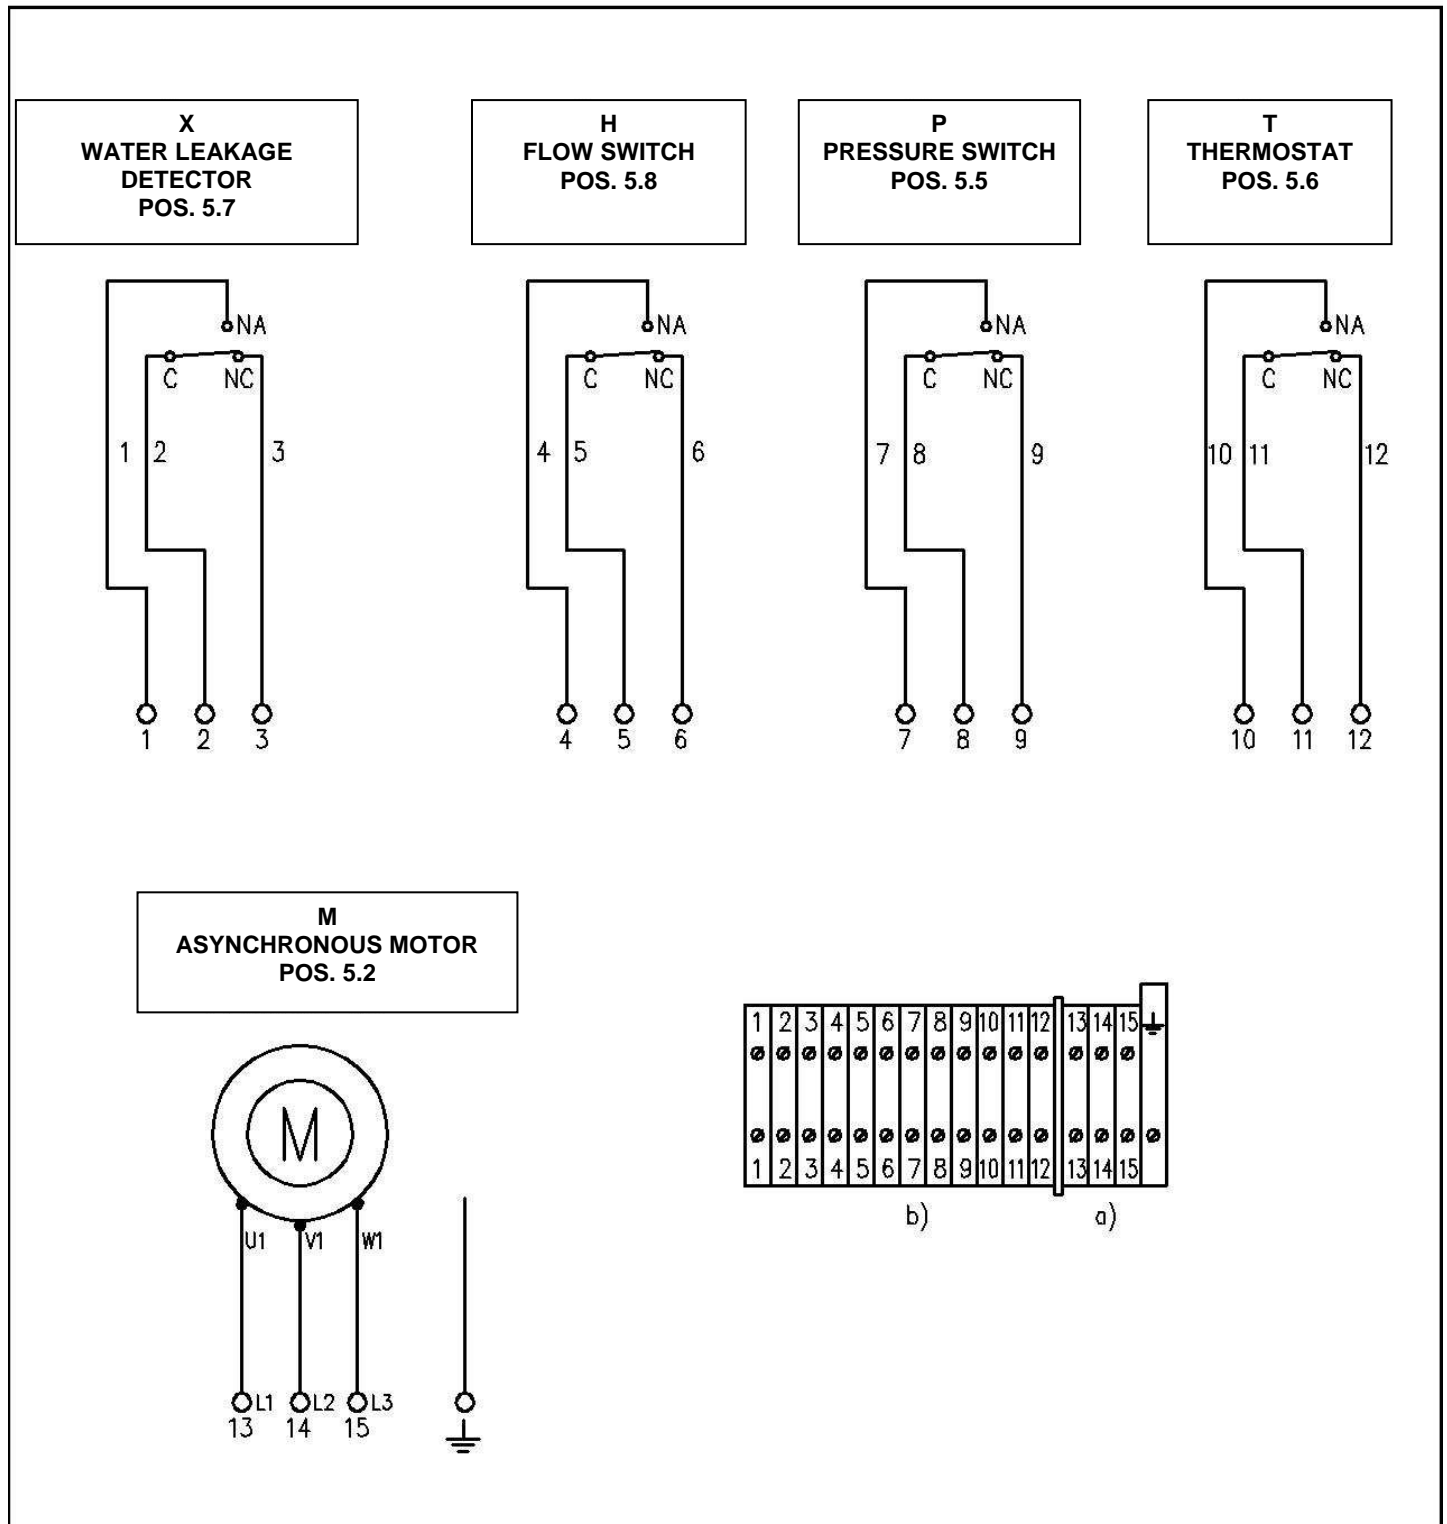

Fig. 9 – Air-water heat exchanger wiring diagram
c.7 Control equipment (see diagram in fig. 9)